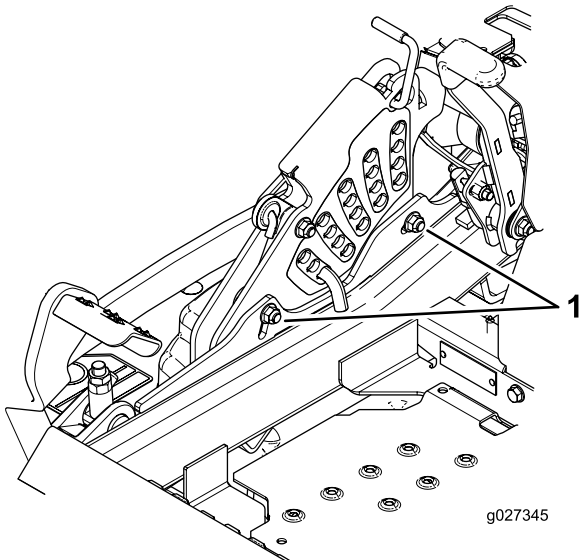

Figure 88
12. To adjust the single point system, loosen the two bolts at the bottom of the height of cut plate. Refer to Figure 88.
14. Tighten the two bolts at the bottom of the height of cut plate (Figure 88). Torque to 37-45 N-m (27-33 ft-lb).